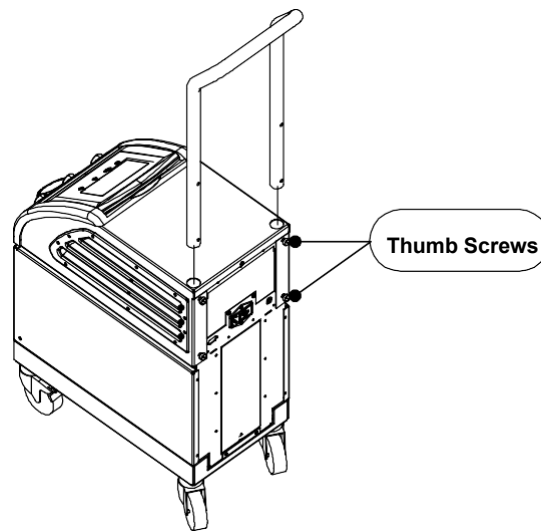

Figure 8: Handle Assembly
2. Slide the two ends of the handle into the holes in the top cover (pay attention to the direction of the curve in the handle) until the handle is inserted all the way in (See Figure 8).